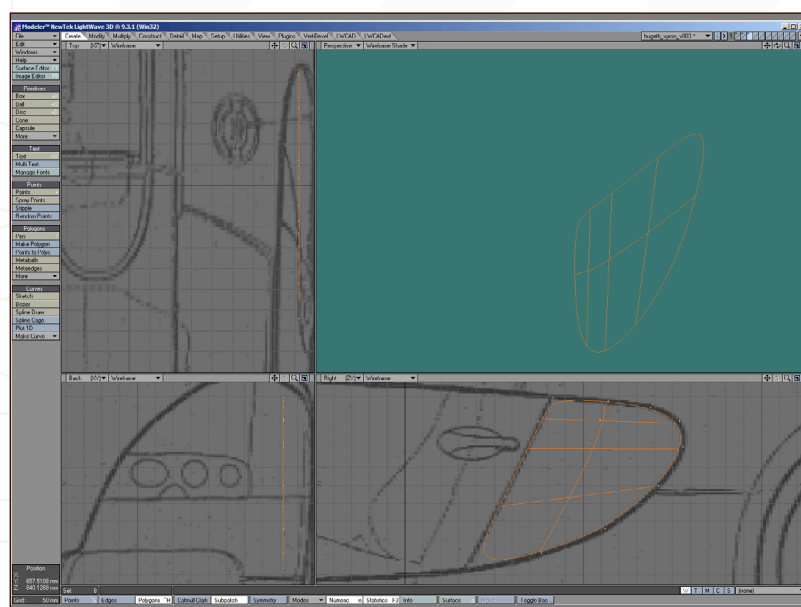

Fig 16
16. We now need to make the small inset panel itself. Simply create a polygon and use the knife or bandsaw tool to create a vertical split in the polygon, and then drag the points to fit the outline of the panel on the blueprint. It obviously looks rounded and ill-defined at the moment, but we'll bring the door in next to refine the shape as though they are a single unit (**Fig16**).